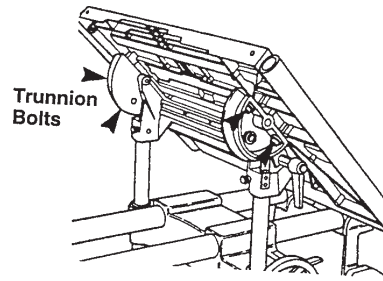
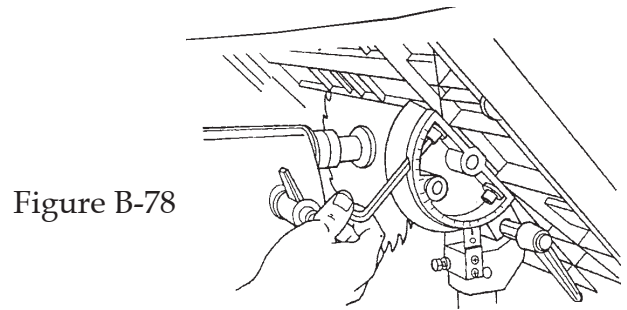

Figure B-77
Figure B-78
- b. Use a 5/16" Allen wrench to loosen all four bolts (147) which hold the worktable to the trunnions, as pointed out in Figure B-77. Loosen the bolts only enough to allow movement with firm pressure. See Figure B-78.